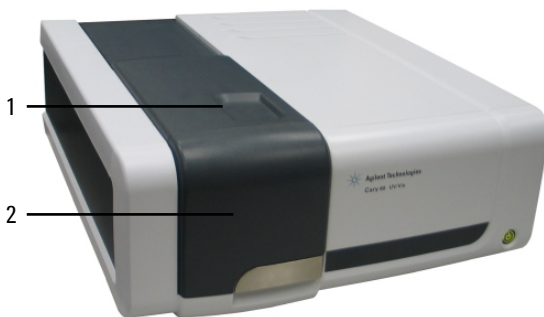

Figure 4. Cary 60 showing the sample compartment lid (1) and front door (2)
- 3 Slide back the sample compartment lid (refer to Figure 4).
- 4 Remove the sample compartment front door (refer to Figure 4).
- b Firmly tighten the thumbscrew on the cell holder base (item 2 in picture above).
- 2** USB Type B connector at the back of the instrument for connection to the computer (2 on Figure 4)
- 3** 5.5/2.5 mm power jack at the back of the instrument for the 12 V power supply (3 on Figure 4)
- 4** 8-pin DIN connector in the left side of the sample compartment for the diode detector (4 on Figure 4)
- 5** 3.5 mm phono jack socket in the left side of the sample compartment for accessories (5 on Figure 4)
- 6** 25-pin D-range connector in the right side of the sample compartment for accessories (6 on Figure 4)